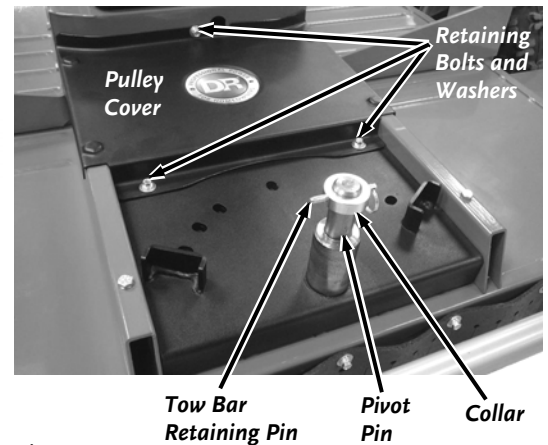

Figure 4
1. Using a 7/16" Wrench or Socket, remove the three (3) Bolts and Washers that retain the black Pulley Cover and remove the Cover (**Figure 4**).